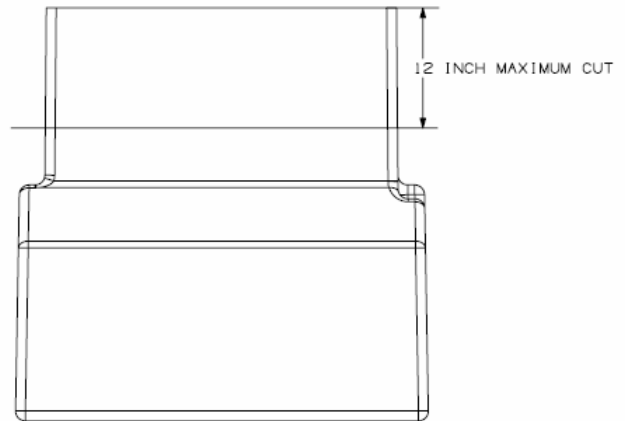

Figure 2
**Note:** The maximum cut that can be made to the sump is 12 inches (See Figure 2).